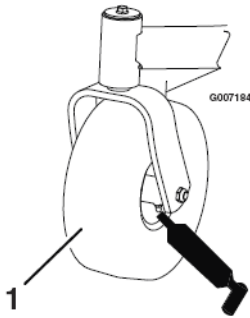
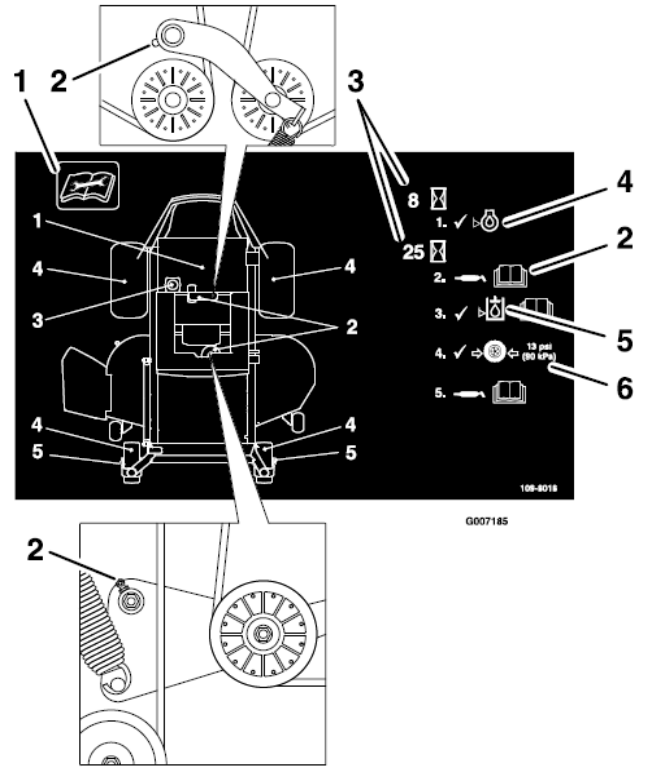

Figure 21
Figure 22
Grease the front caster pivots and wheels (Figure 21).
3. Clean the grease fittings (Figure 21 and Figure 22) with a rag. Make sure to scrape any paint off of the front of the fitting(s).
4. Connect a grease gun to each fitting (Figure 21 and Figure 22). Pump grease into the fittings until grease begins to ooze out of the bearings.